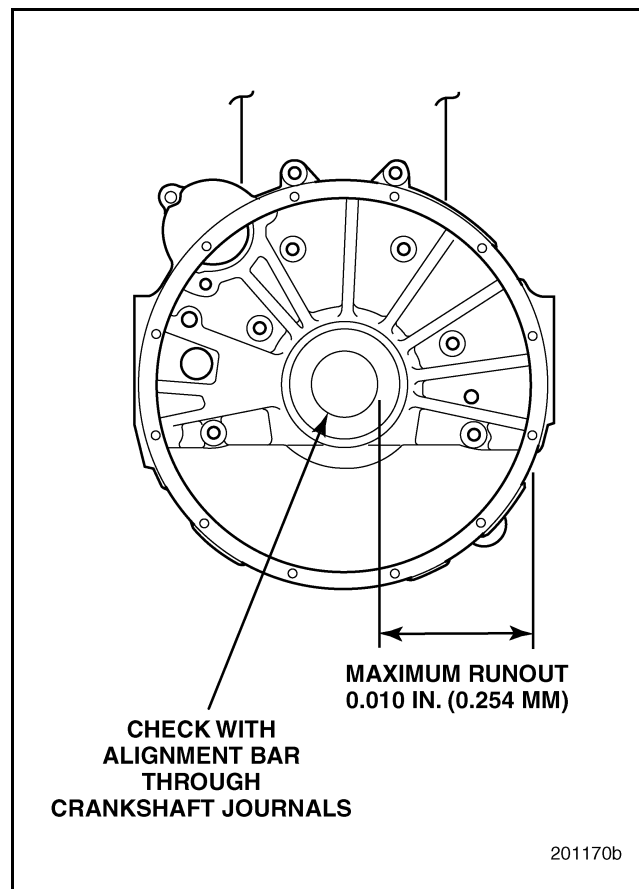

Figure 340 — Flywheel Housing Runout Check with Alignment Bar
- Runout checked with an alignment bar installed through the cylinder block main bearing bores: 0.010 inch (0.254 mm) TIR maximum. Refer to Figure 340.